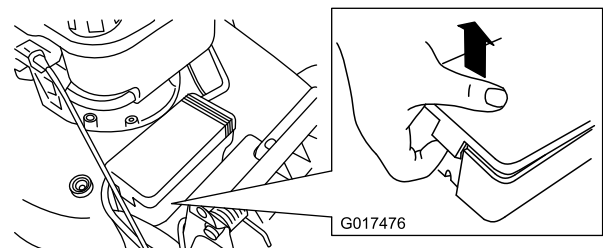

Figure 37
1. Unclip both ends of the battery cover and remove it (Figure 37).